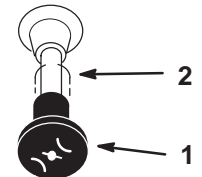

Figure 14
7. After the engine starts, move the choke to off (Fig. 14). If the engine stalls or hesitates, move the choke back to on for a few seconds. Then move the throttle lever to desired setting. Repeat this as required.